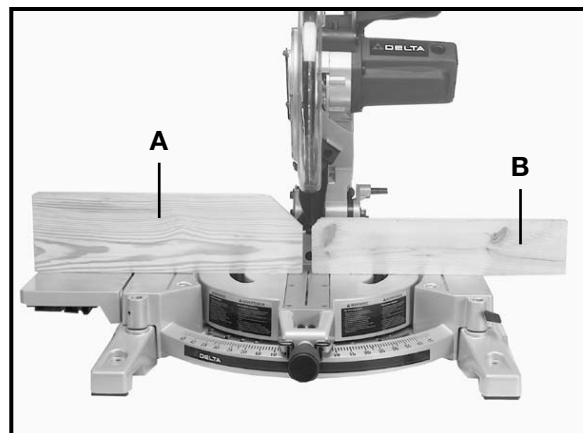

Fig. 31
Holes are provided in the fence to attach an auxiliary fence (A) and (B) Fig. 31. This auxiliary fence is constructed of straight wood approximately 1/4” thick by 3/4” high by 16 inches long as shown at (B); and 1/2” thick by 5” high by 17” long (A) Fig. 31.
**NOTE:** The auxiliary fence (A) is used **only** with the saw blade in the 0 degree bevel position (90 degrees) to the table. The auxiliary fence must be removed for all bevel cuts (blade tilted).